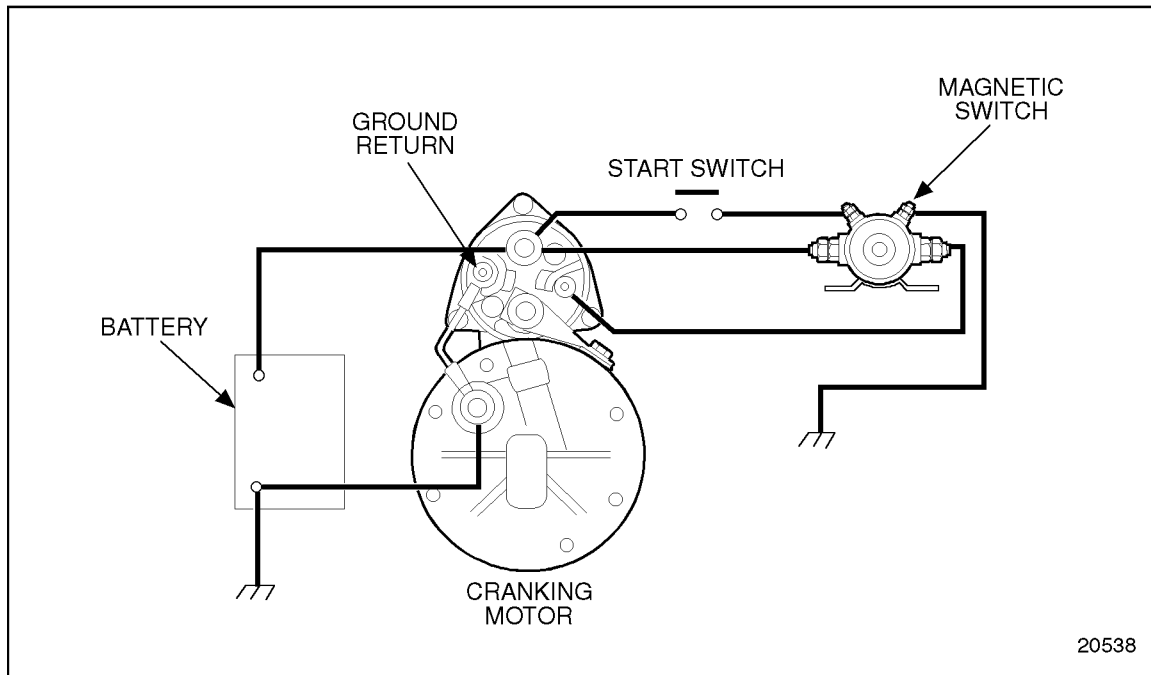

Figure 4-1 Basic Cranking Circuit
2. Clamp a heavy gage battery jumper cable between the two large studs of the magnetic switch; see Figure 4-1.